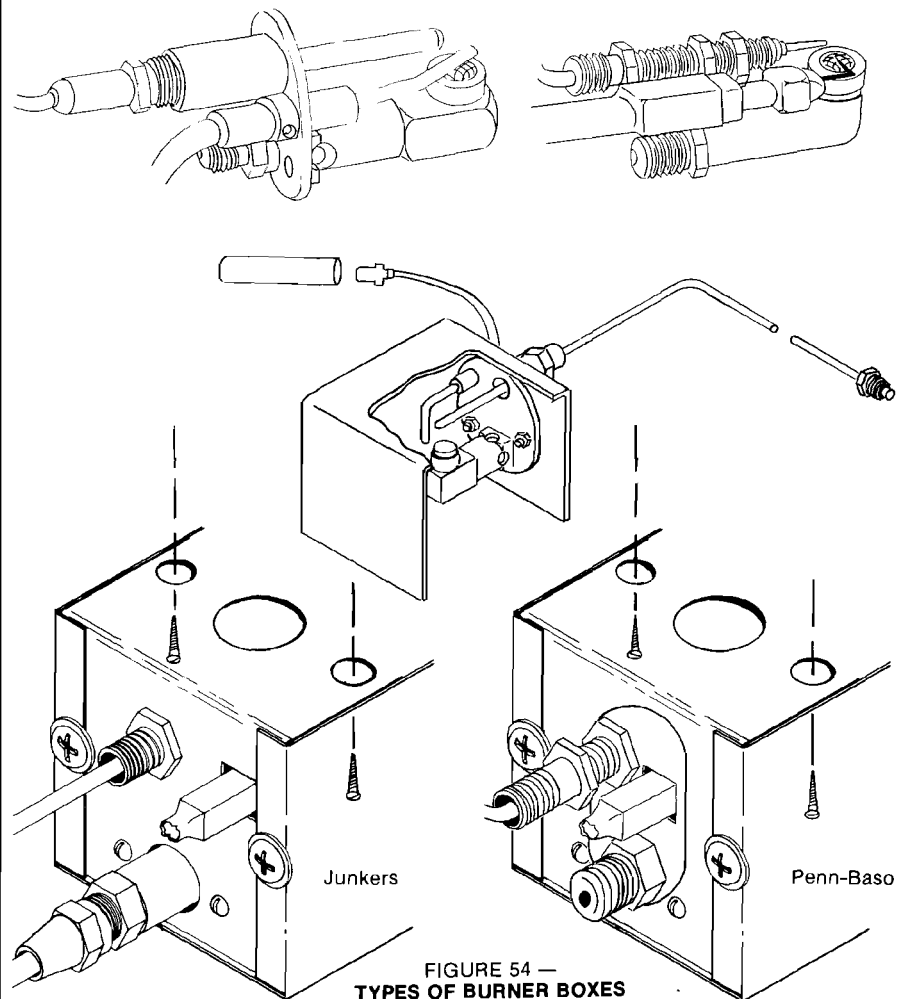

FIGURE 54 — TYPES OF BURNER BOXES
4. Lay the refrigerator face down. Remove the two Phillips-head screws holding the burner box cover and slide the cover off (toward the bottom of the refrigerator). Remove both round head machine bolts holding the box to the bottom of the cooling unit (Fig. 54).